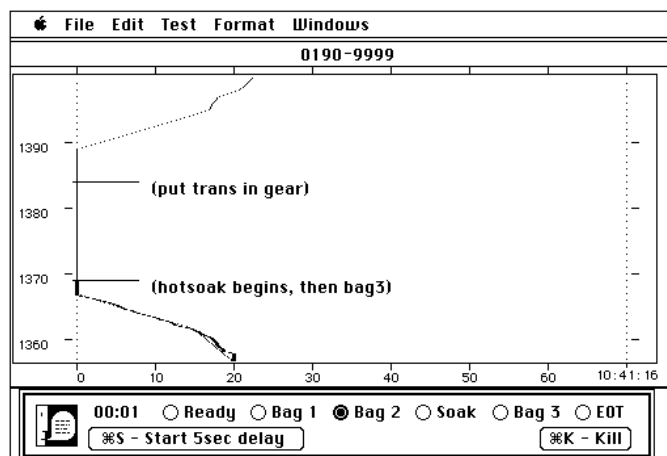

Figure 11
- 321 When the engine stops running, press <Command-S>; 5 seconds later, the sampling will automatically stop and the soak indicator on the VDA screen will light. See Figure 11. Turn off the CFV-CVS blower. The VDA will automatically reset to the beginning of the next driving schedule.